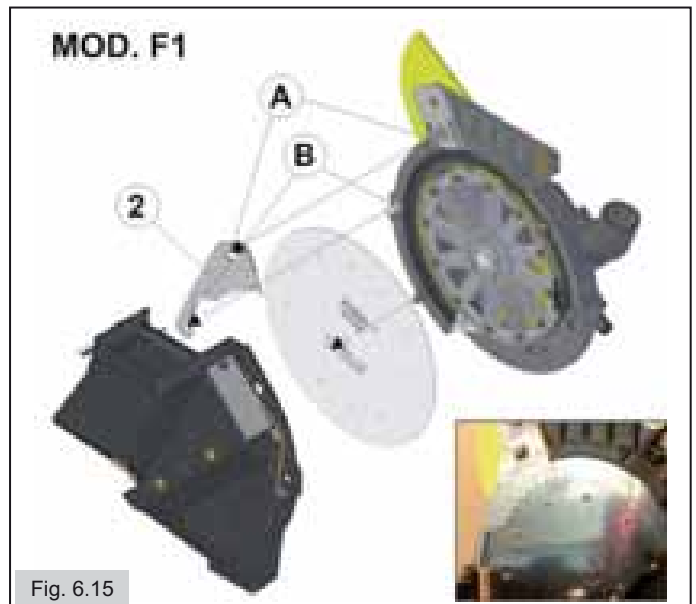

Fig. 6.15
The disc shall be mounted on the disc wheel of the distributor with the face with **MATERMACC** trademark and the specific data of the disc (code, number of holes, diameter) turned towards the lid. (Fig.6.15).
- Once the disc has been inserted, insert selector **2** in fixing bolts **A** and **B**. (Fig.6.15).